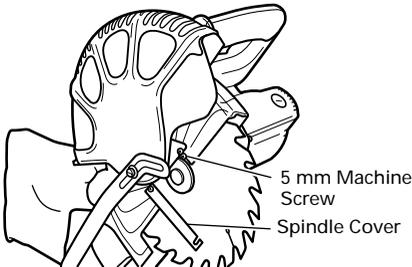
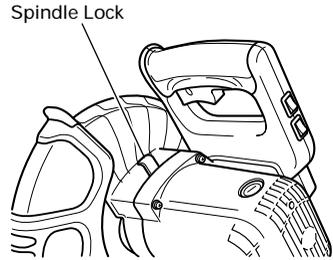
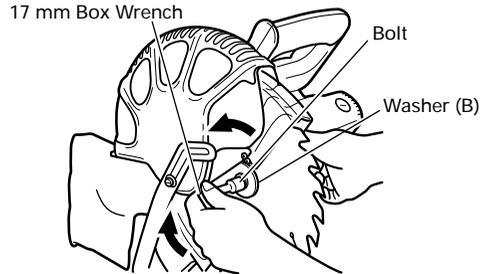
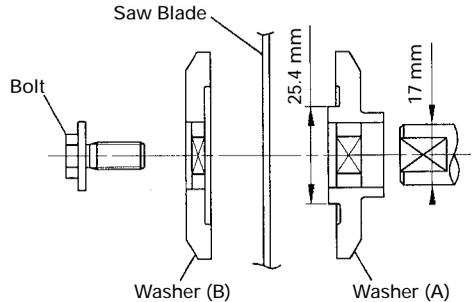

Fig. 25
Fig. 26
Fig. 27
Fig. 28
1. Mounting the saw blade (Fig. 25, Fig. 26, Fig. 27 and Fig. 28)
Since the bolt is left-hand threaded, loosen by turning it to the right as show in Fig. 27.
- (6) Thoroughly clean washer (B) and the bolt, and install them onto the saw blade spindle.
- (7) Press in the spindle lock and tighten the bolt by turning it to the left by standard accessories wrench (17 mm box wrench) as indicated in Fig. 27.